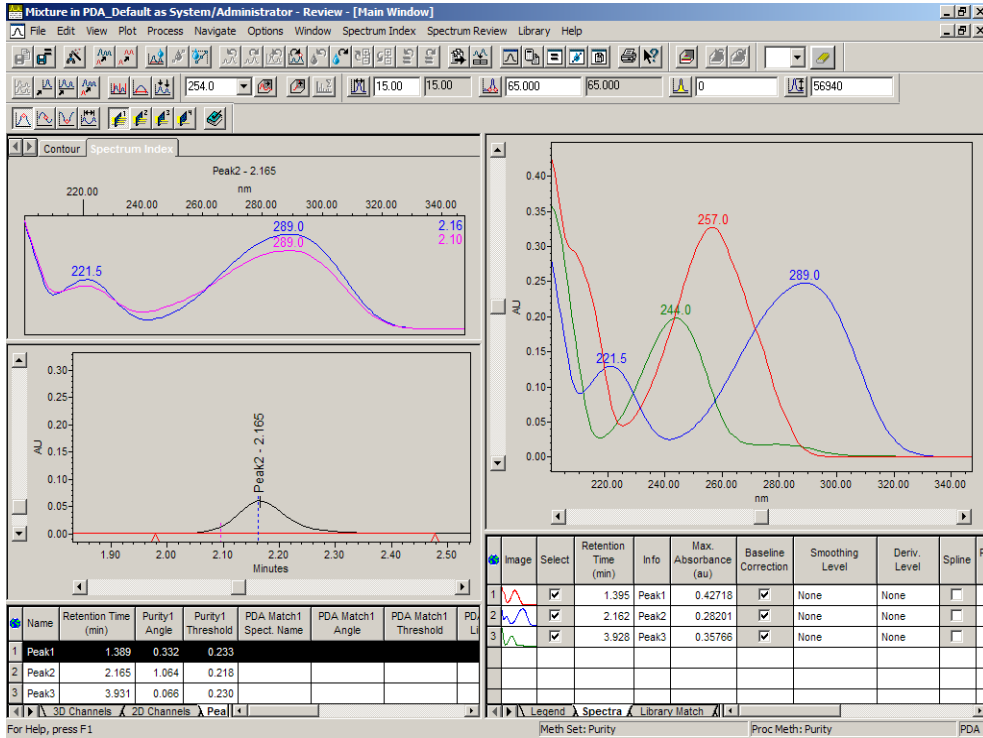

Figure 3-26 Maximum Impurity Spectrum with Peak 2 Spectra Zoomed
4. Scroll to the right and examine the spectra from the second peak and note the significant differences between the spectra (Figure 3-26). Recall that this peak is not spectrally pure.